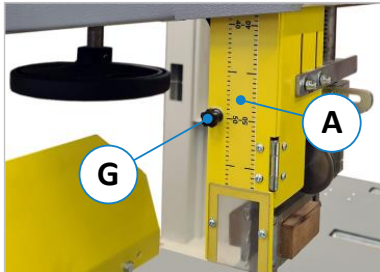

Figure 53: Open the guard cover
- Close the front guard cover of the upper bandsaw blade guide (see ⇒ Figure 53).